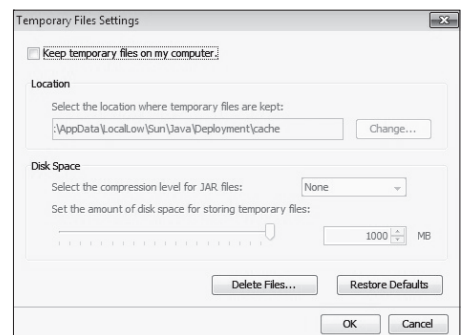

Fig. 68 — Temporary File Settings
- **Temporary internet files:** In the Java Control Panel, click Settings in the Temporary Internet Files section. Be sure the setting Keep temporary files on my computer is unchecked (clear). See Fig. 68.